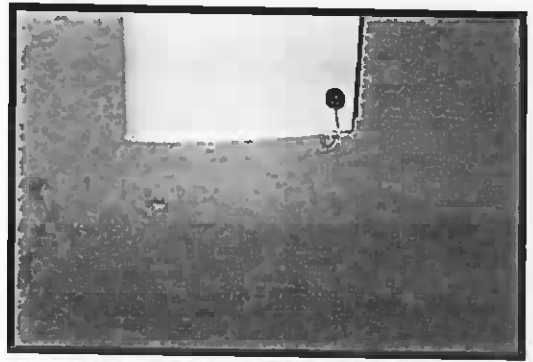

Figure 1-16
38. Safety wire the hinge pin in place as shown in Figure 1-16.